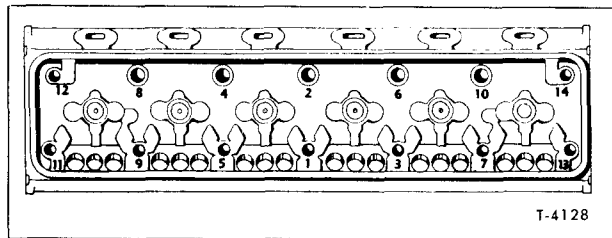

Figure 23—Cylinder Head Bolt Tightening Sequence on In-Line Engine (6-71 N/NE)
5. Tighten bolts and stud nuts lightly on camshaft side of head first to compress the cam follower springs. After head is squarely seated, use a torque wrench to tighten nuts and bolts in sequence shown in figure 23. Tighten each nut and bolt about one-half turn at a time until all are firmly tightened, then finally tighten all bolts and nuts to 175 to 185 foot-pounds. Do not exceed the high limit, as this may stretch the parts beyond their elastic limit.